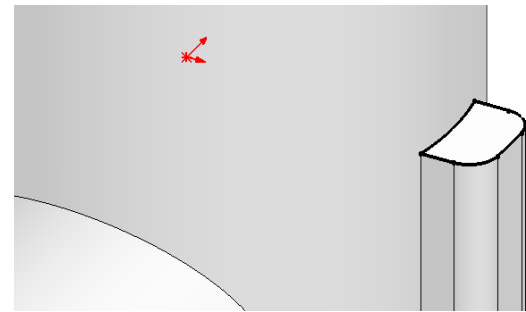

Fig. 29
Step 2. With the face still selected, click **Convert Entities**  on the Sketch toolbar, **Fig. 29**.